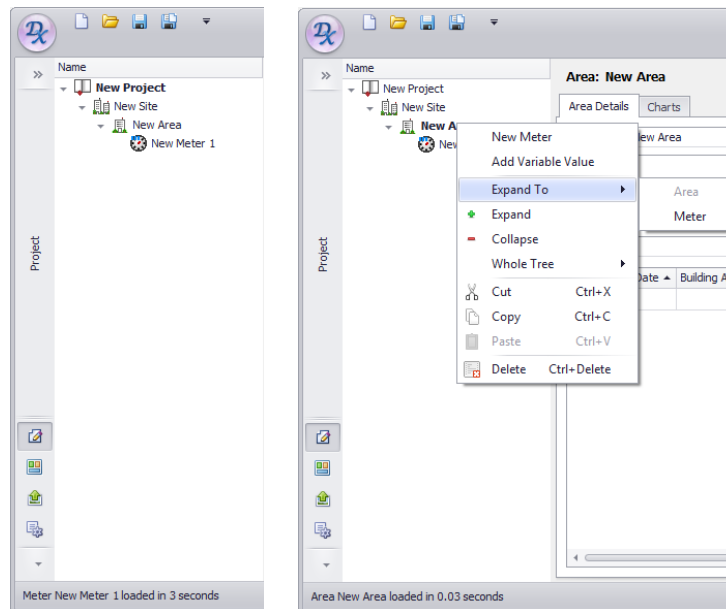

Figure 2.3: Left: Navigation Panel for a simple project with a Site, an Area and a Meter.
- **Tree View:** When this option is selected, the Navigation Panel will show what it is called the Tree structure of the project. Once your project is created you will be able to add items such as Site, Area, or Meter as needed to set up your actual project. Every item you create will be added to the Project Tree and will be displayed in this Navigation Panel. The Data Panel will show a Data Form to enter information about the selected item. Figure 2.3 (left) shows the Navigation Panel for a project where a Site, an Area and a Meter have been added.
As you create Items in your project, you can expand the Tree View by right-clicking on any of the Project items in the Tree Structure and selecting “Expand” to show the next level, or “Expand To ...” to select the level of expansion. You can also see the whole project by selecting Whole Tree->Expand All from the drop-down menu (see Figure 2.3 (right)).